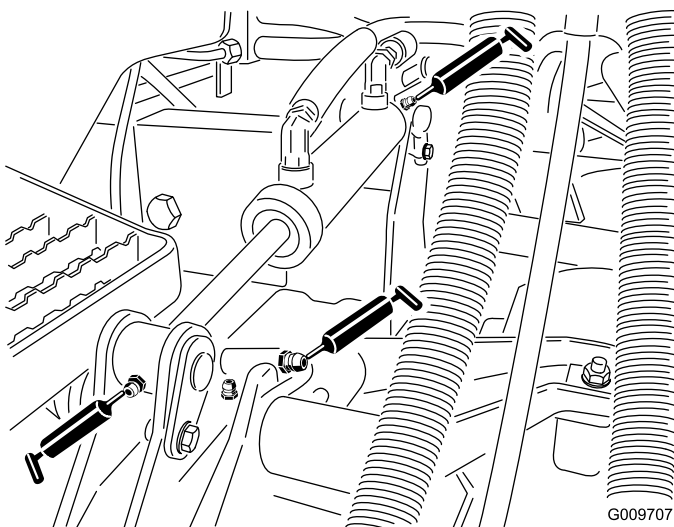

Figure 28
- Lift-arm bushings (1 per deck) (Figure 28)
- Lift-cylinder bushings (2 per deck) (Figure 28)